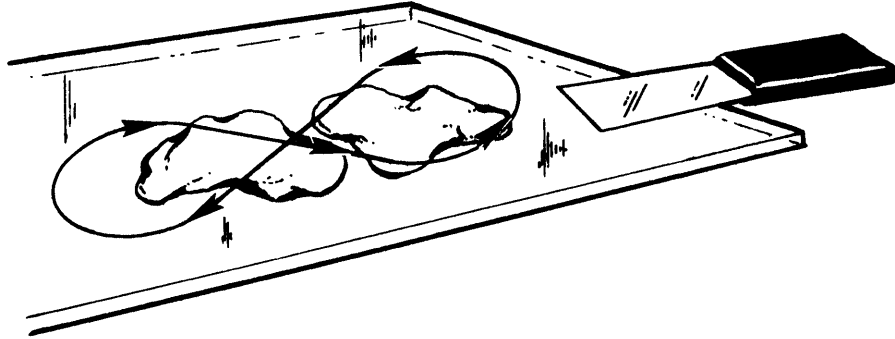

Figure 4-16. Mixing of Epoxy Patching Compound
5. Mix patching compound in equal portions on a hard flat surface (use a figure eight motion). Clean damaged area with perchlorethylene or VM&P naphtha prior to applying compound (Figure 4-16).